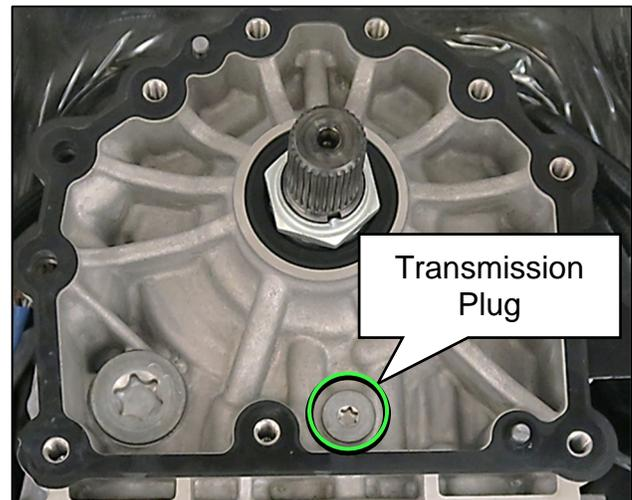

Figure 10
- Remove the Transmission Plug shown in Figure 10.